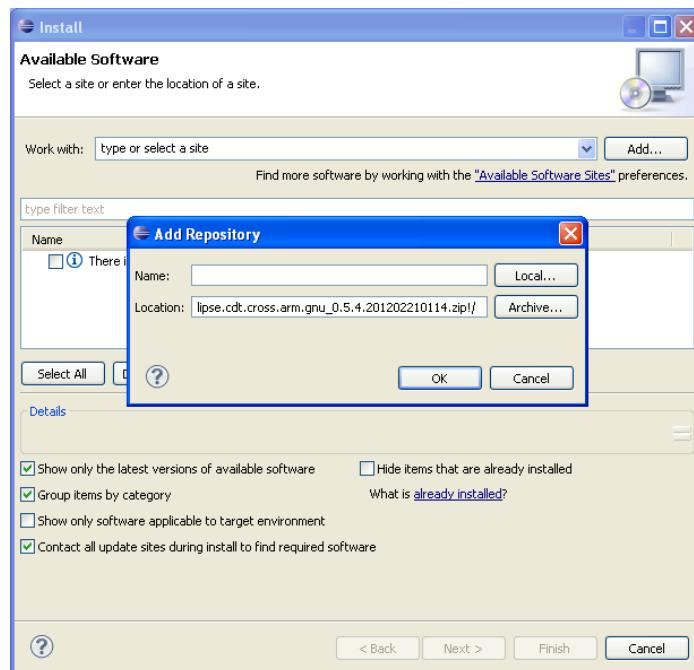

Figure 11.3 Add Repository
- A window similar to that shown in Figure 11.3 will show.